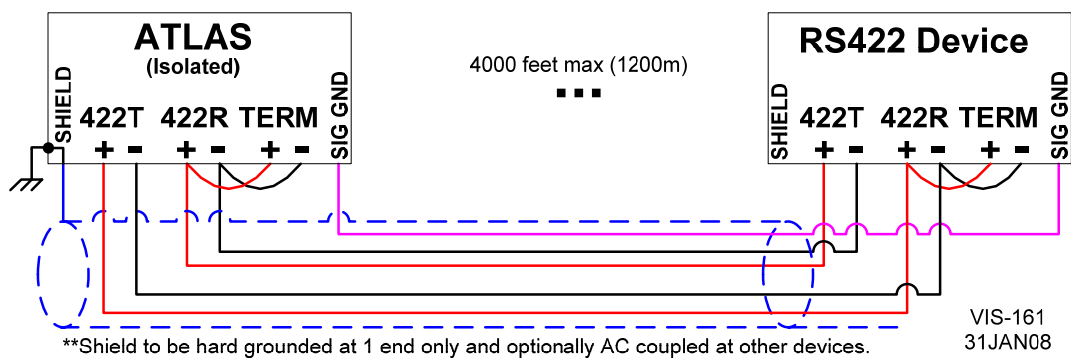

Figure 4-22. Example–RS-422 Interface to the SmartCore CPU A5200
- **RS-422.** Refer to Figure 4-22 for RS-422 wiring. The transmit data pairs (422T+ and 422T-), receive data pairs (422R+ and 422R-), and signal ground (SIG GND) must be properly connected as shown. In addition, the shield (SHLD) should be connected in at least one location. Only the receiver at each end of the network should be terminated with a resistor.